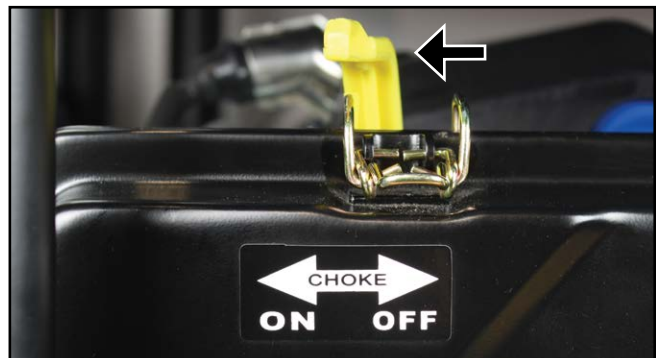

Figure 23 – Choke Lever in the ON Position
- Move the choke lever to the **ON** position (see Figure 23) if starting a cold engine. To re-start a warm engine, leave the choke lever in the **OFF** position.